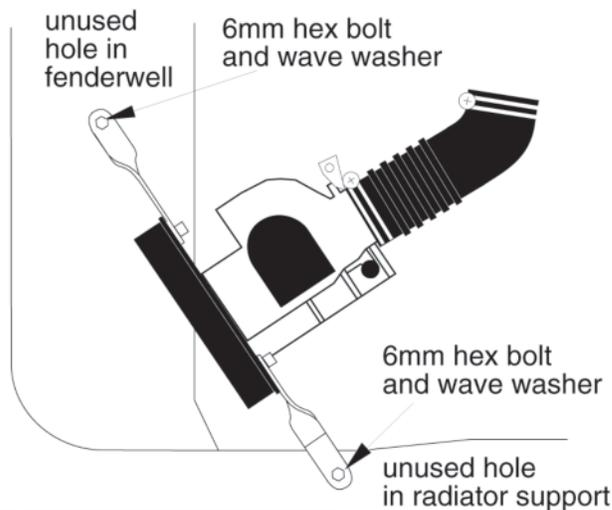

fig. 3
- 11) Install the mass-air / adapter assembly into the intake hose. The brackets will line up with unused holes in the body. Position assembly for best clearance and tighten all hardware and intake hose clamp. (see fig. 3)